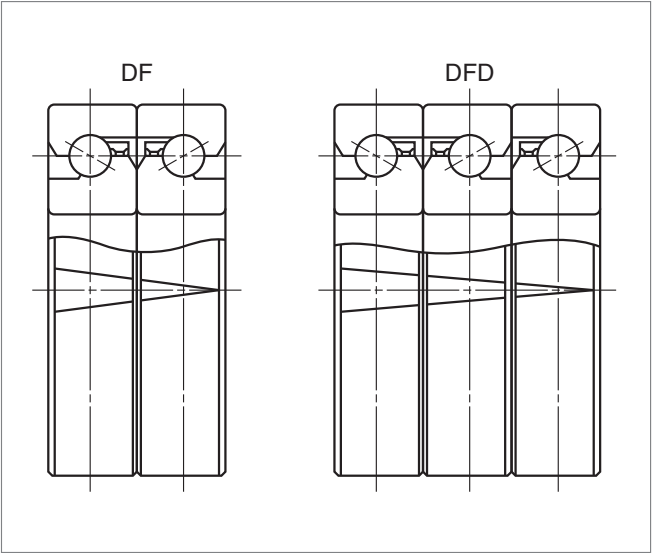

Fig. 2 Examples of combination and "V" mark
① **Bearing combination**
- Figure 2 shows examples of combinations. There is "V" mark on the outside surface of the bearing to avoid misarrangement. A complete letter "V" should be formed when all bearings align correctly to form a set.